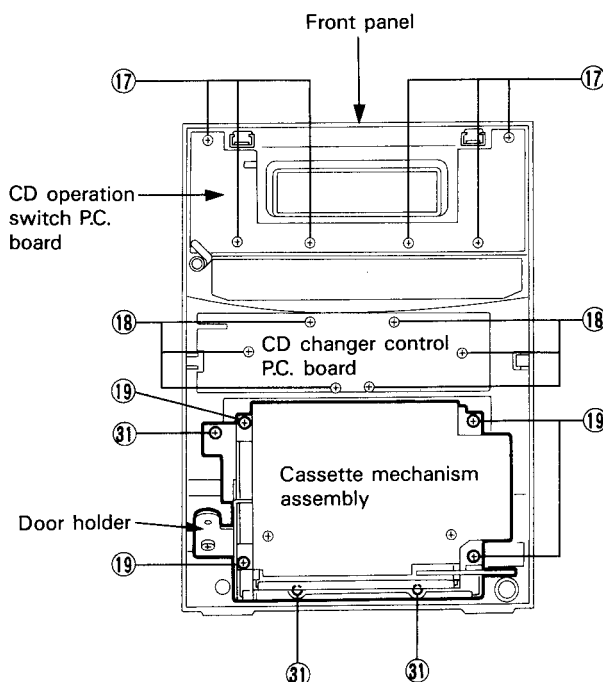
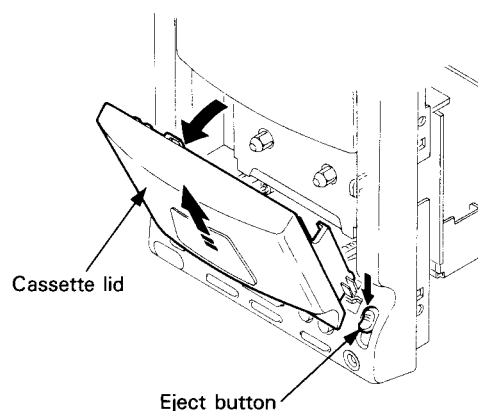

Fig. 7-16
Fig. 7-17
■ **Method of removing the CD operation switch P.C. board, CD changer control switch P.C. board and so forth (Refer to Fig. 7-16).**
7. From the front panel assembly, remove the six screws (17) retaining the CD operation switch P.C. board.
8. Remove the six screws (18) retaining the CD changer control switch P.C. board.
■ **Method of removing the cassette mechanism assembly and door holder assembly (Refer to Fig. 7-16).**
2. Remove the four screws (19) retaining the cassette mechanism and door holder, and dismount these mechanism and assembly from the front panel assembly.
3. From the front panel, remove the three screws (31) retaining the door holder assembly.
■ **Method of removing the tape deck operation switch P.C. board (Refer to Figs. 7-17 and 7-18)**
2. By pressing the [EJECT] button, open the cassette door (Refer to Fig. 7-17).